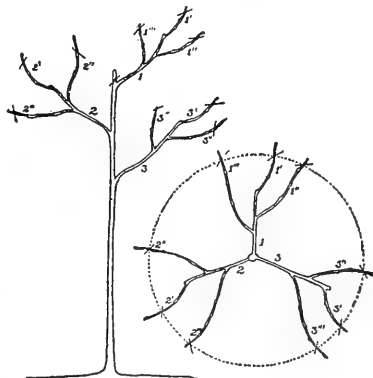

Fig. 83.—Shows plan of top after two years' growth.
1. Study how the top is formed and pruned in Fig. 83.